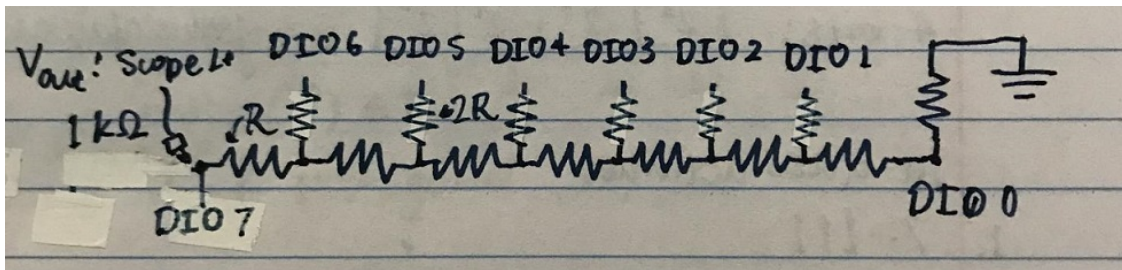
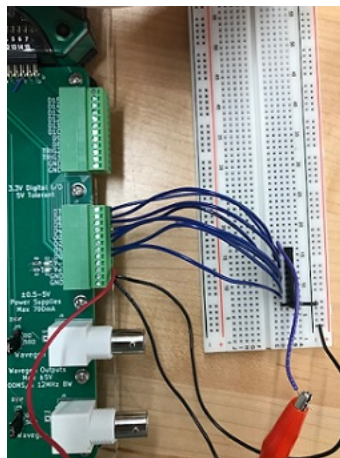

Figure 15: Schematic of input and output pins connected to resistor ladder for sawtooth wave
Figure 16: Setup of resistor ladder on breadboard for sawtooth wave
- I set up the breadboard as seen in Figure 16 following the circuit diagram in Figure 15.
To manipulate my input bits to have the resulting voltage increase linearly, I had to understand how binary counting worked. As well, I relied on my understanding that the resistive ladder was a linear circuit. I figured out that when binary numbers increase linearly, each following bit takes twice the time to increase (from 0 to 1) than the preceding bit; for example the second digit of a binary number takes 2^1 counts to go from 0 to 1, the third takes 2^2 counts to go from 0 to 1, the fourth takes 2^3 , etc. So I just applied this knowledge to the digital input pins of the resistive ladder, incrementing/pulsing each succeeding digital input further from V_{out} at double the frequency. DIO 7, as seen in Figure 15 and 18, are closest to V_{out} and thus have the slowest frequency since they represent the highest digit of the binary number that increments the slowest. DIO 7 is the most significant digit because its voltage is the least ‘diluted’ by the resistive network. Through Thevenin analysis, I understood how the magnitude of each succeeding digital input was reduced by a factor of two due to the resistors. Since the circuit is linear and I wanted a frequency of 6k Hz for the sawtooth wave from V_{out} , I just pulsed DIO 7 at the base 6 kHz and multiplied each succeeding digital input pin by 2.